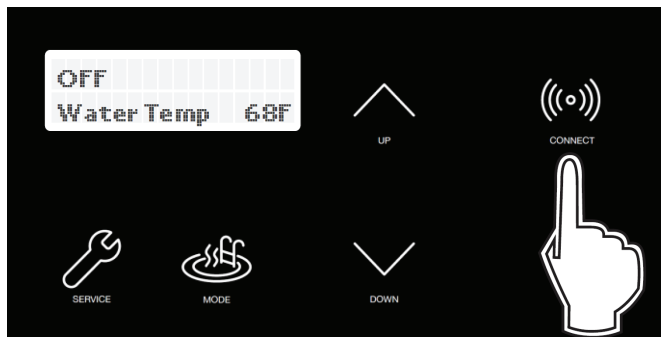

Figure 72. CONNECT Key
- Stand near the display of the Crosswind V unit. Press the CONNECT key. See Figure 72.